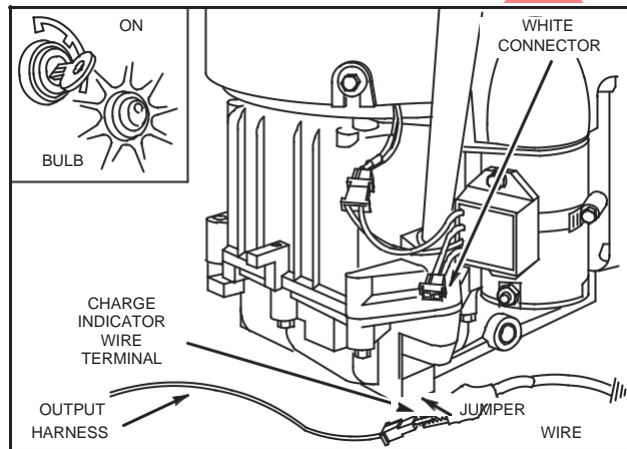

Fig. 25 – Testing Charge Indicator
3. Attach other end of jumper wire to charge indicator terminal in harness connector, Fig. 25.